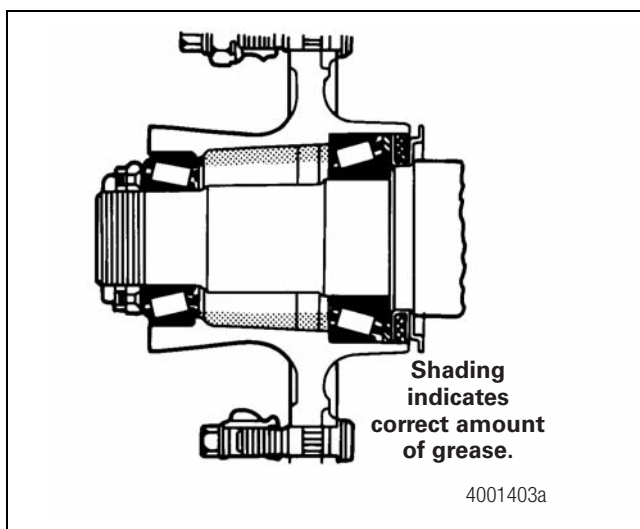

Figure 5.8
7. Pack the inner bearing cone with Meritor specification O-617-A or O-617-B grease. Figure 5.8.